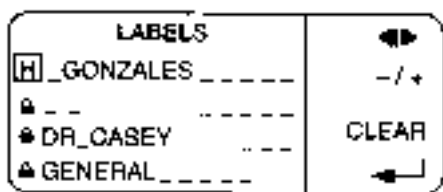

Figure 3
- Once labels are entered into the labels screen, the “Enter” button () must be pressed to store labels to trend memory. If the enter button is NOT pressed the labels are simply present on the labels screen and are not stored to trend memory. This means the labels will not print on the InstaReport or printer report (Figure 3).